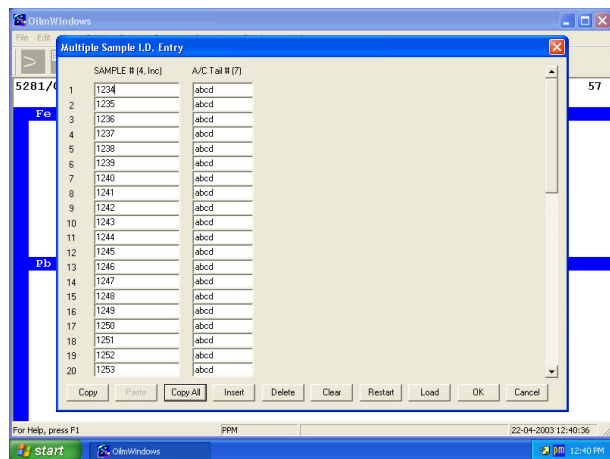
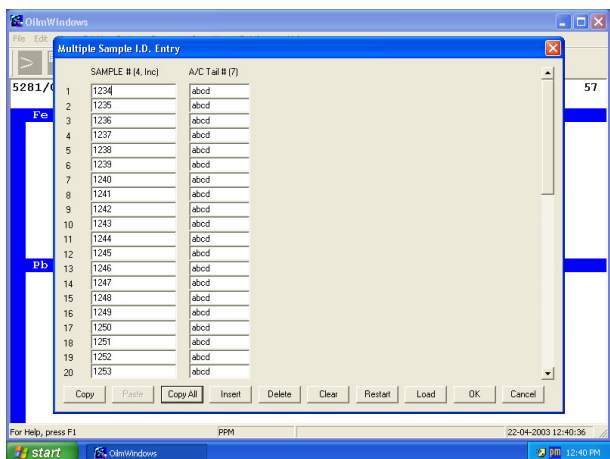

Figure 2-17, Single Sample ID Entry Menu
Figure 2-18, Multiple Sample ID Entry Menu
sample, the Sample I.D. can be entered by pressing function key 3 (F3), or by clicking on the Sample I.D. icon. This menu option will produce a dialog to permit the entry of one single ID, Figure 2-17, or provide the capability to pre enter multiple sample ID's, Figure 2-18, using the MULTIPLE button. Both dialogs are configured at the system level by the System/Sample ID option.